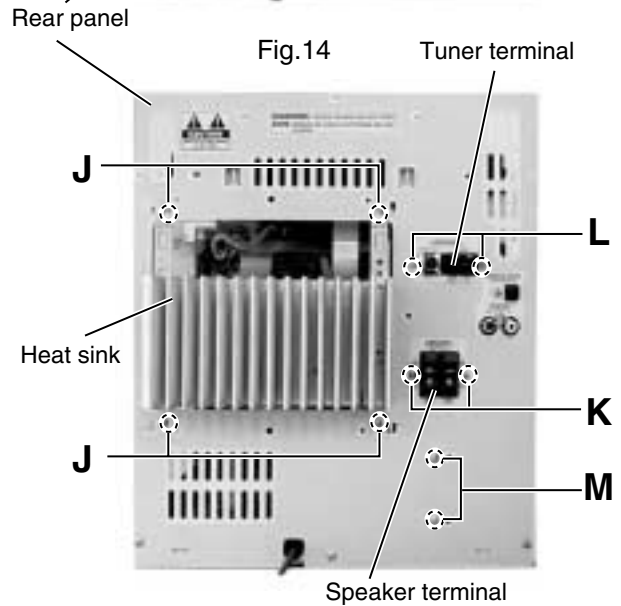

Fig.15
■ Removing the tuner board (See Fig.15 and 16)
■ Removing the eco board (See Fig. 15 and 17)